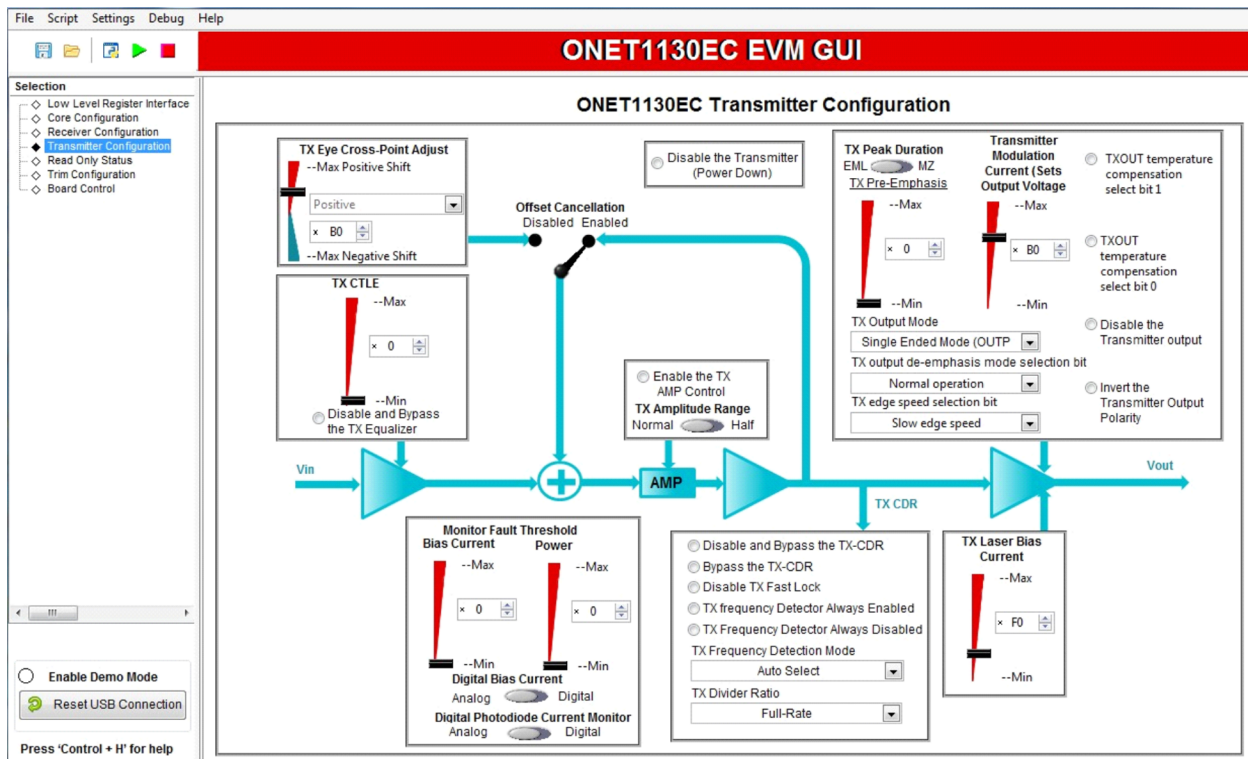

Figure 8. Transmitter Configuration Page
5. Go to the *Transmitter Configuration* page as shown in Figure 8.